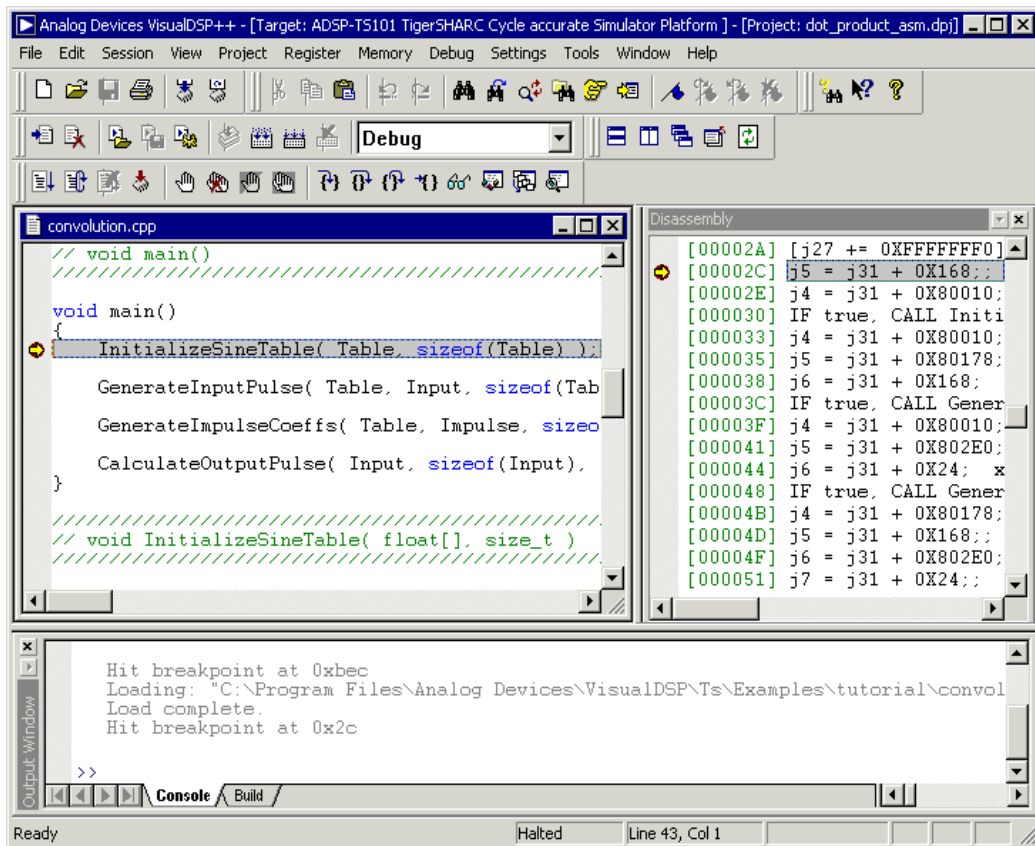

Figure 2-24. Loading the Convolution Program
- e. Double-click `convolution.cpp` to display the file in an editor window, as shown in Figure 2-24 on page 2-36.